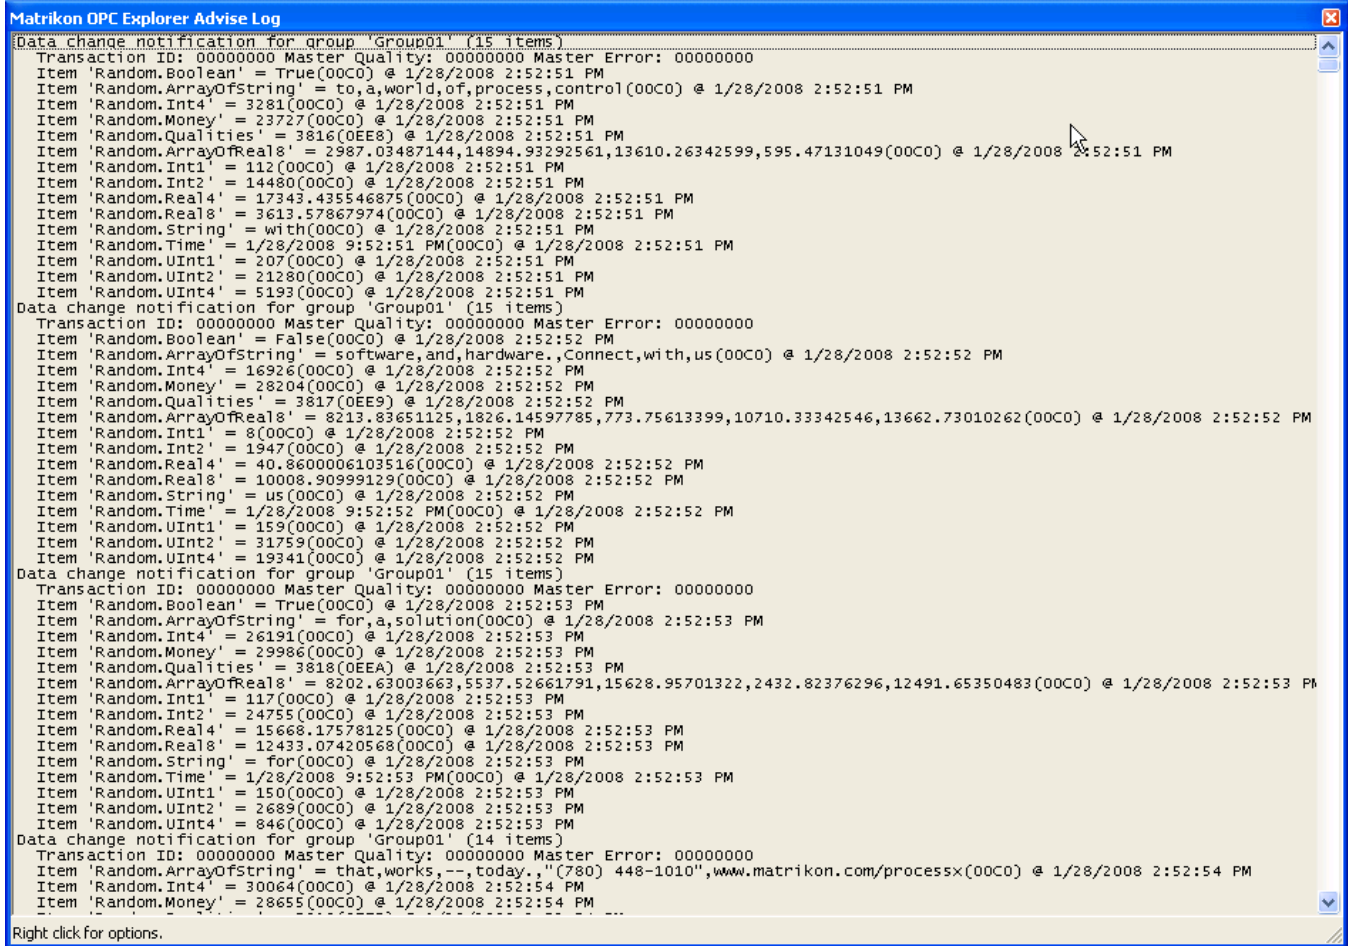

Figure 25 - MatrikonOPC Explorer Advise Log Window
3. The **MatrikonOPC Explorer Advise Log** window (Figure 25) appears displaying the transactions log.